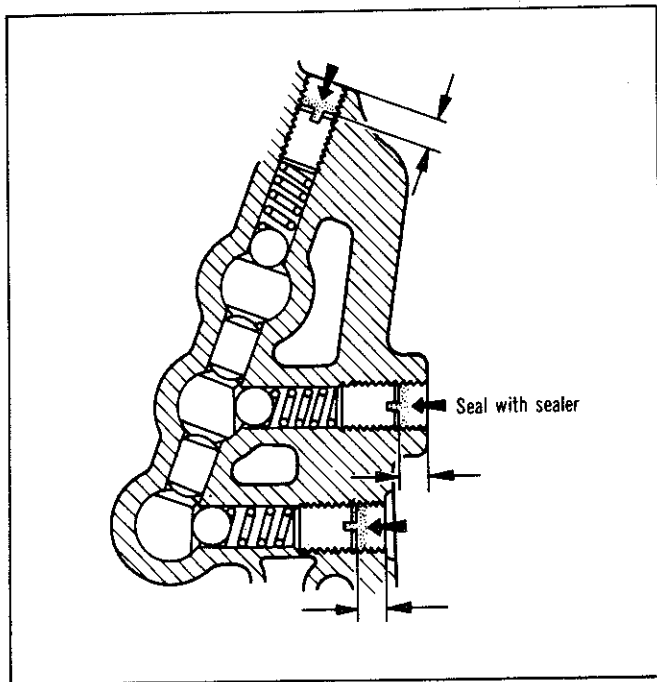

Fig. 35—Detent balls, springs and plugs
(26) Install the detent balls and springs into each shift rail, then install each plug 6 mm (0.240") below the surface of the transmission case, refer Fig. 35. Seal the plug head with sealant.